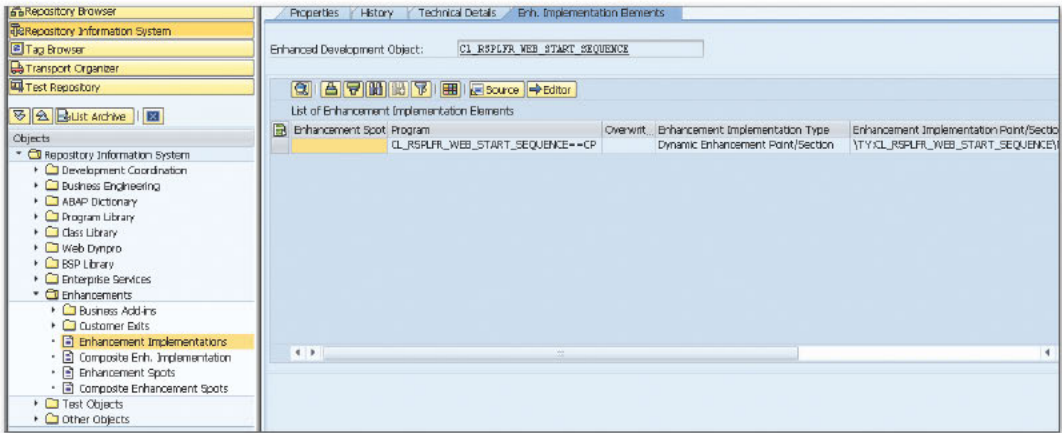

Figure 3 Enhanced Development Object CL_RSPLFR_WEB_START_SEQUENCE
2. Log in to the SAP NetWeaver BW system. Go to Transaction SE80 and choose `REPOSITORY INFORMATION SYSTEM • ENHANCEMENTS • ENHANCEMENT IMPLEMENTATIONS`, and look for the object `CL_RSPLFR_WEB_START_SEQUENCE` (see Figure 3).